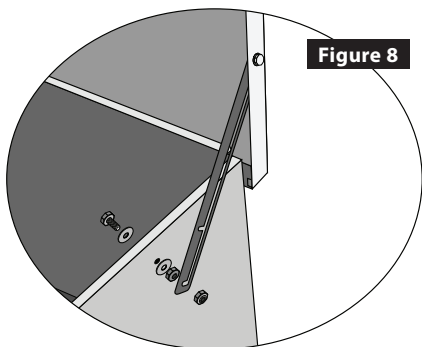

Figure 8
10. **SUPPORT ARM BOLT:** Put a washer on the large bolt and push it out through the hole on the right side panel. Place the second washer on the bolt and tighten the regular nut onto the bolt. **Figure 8.**
12. **SUPPORT ARM:** Push the slider opening of the support arm onto the bolt now sticking out of the right panel. Tighten the lock nut onto the bolt. The support arm slides between the regular nut and the lock nut. **Figure 8.** Best to tighten the lock nut with a crescent wrench (or a 7/16" wrench) until the lock nut is flush with the bolt. The lid will now hold in place when the bolt is in a notch in the support arm at either $\frac{3}{4}$ open or fully open. Close the lid to test that the bin is square and level. Twist the handle to lock out raccoons.